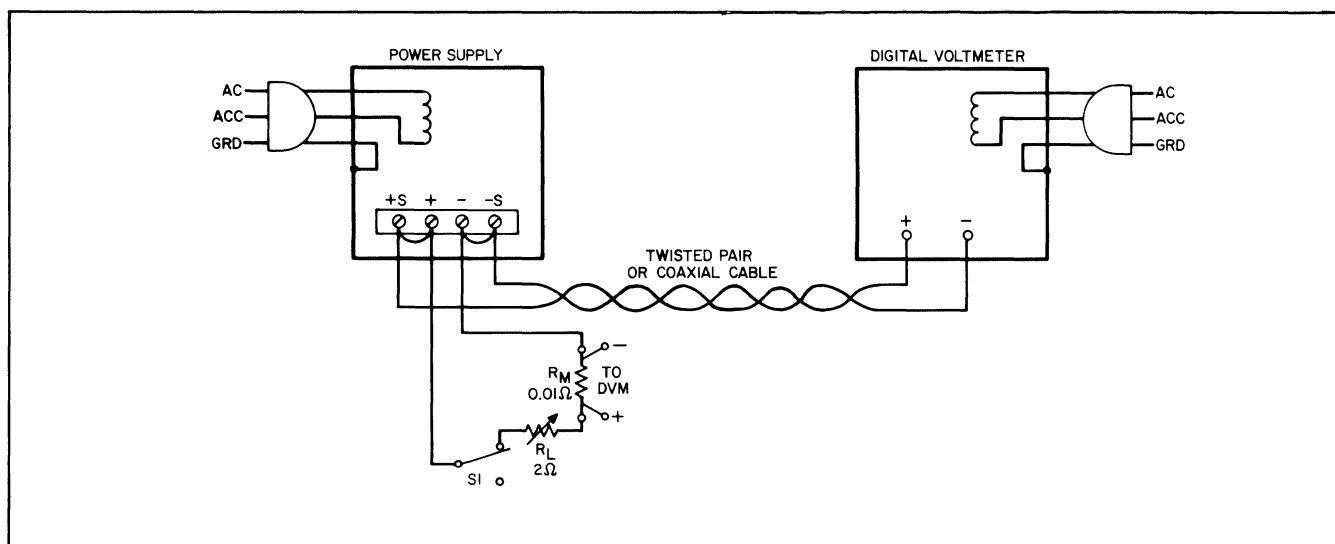

Figure 5-2. Constant-Voltage Test Setup
- Connect test setup shown in Figure 5-2. Set R_L to maximum resistance initially.
- a. Connect test setup shown in Figure 5-2.
- a. Connect load resistance and digital voltmeter as illustrated in Figure 5-2.